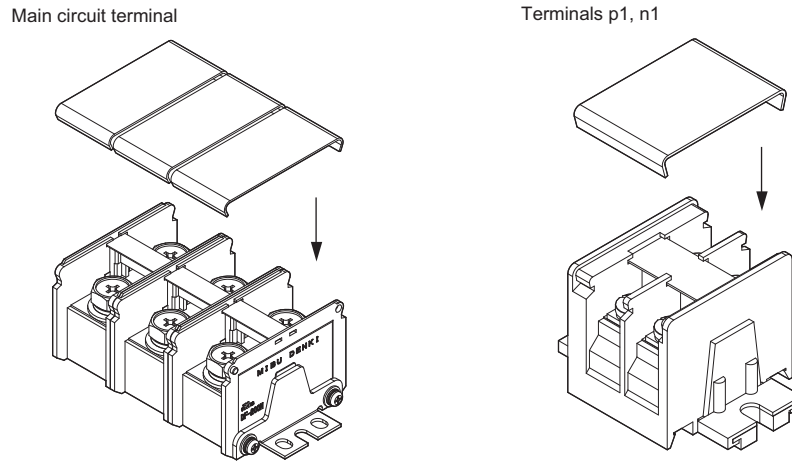

Figure 20 Protective Cover (2□0104)
*Figure 20* shows an example of a main circuit protective cover for model 2□0104.